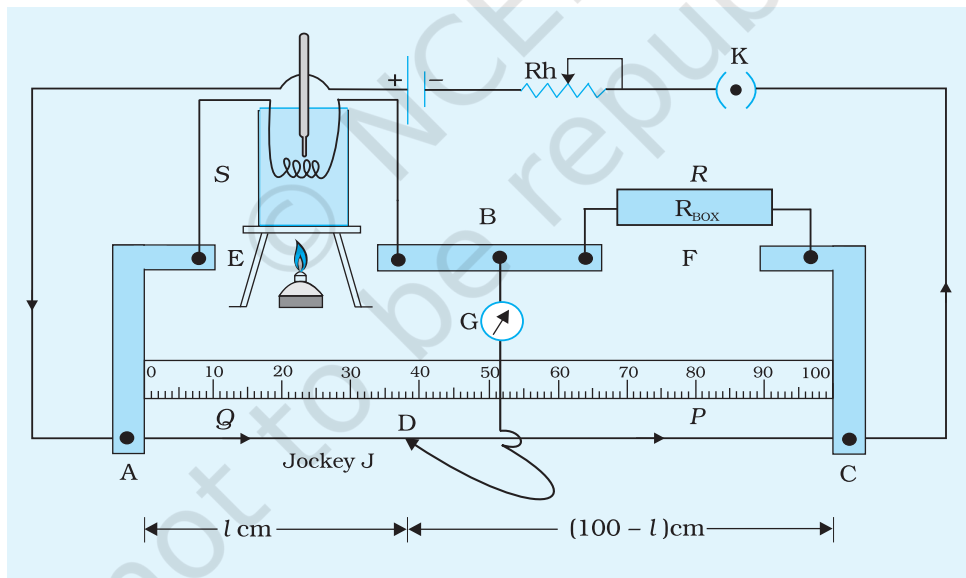

Fig. E 2.5
3. The resistance of a wire changes with temperature. You may study this by using a metre bridge. You may use a beaker with mustard oil, a suitable thermometer (0-300°C) and resistance wire of known length. The experimental set-up shown in Fig. E 2.5 may be used.